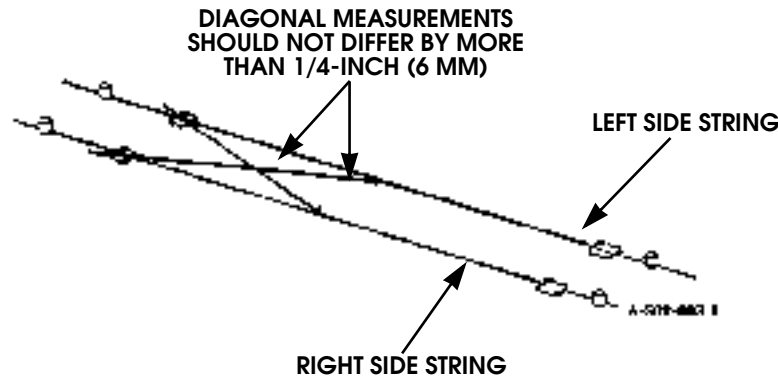

Figure 9-153: Diagonal Skew Measurement Method 1
1. Measure diagonally from one point on right or left frame rail string to a point on opposite frame rail string (Figure 9-153).